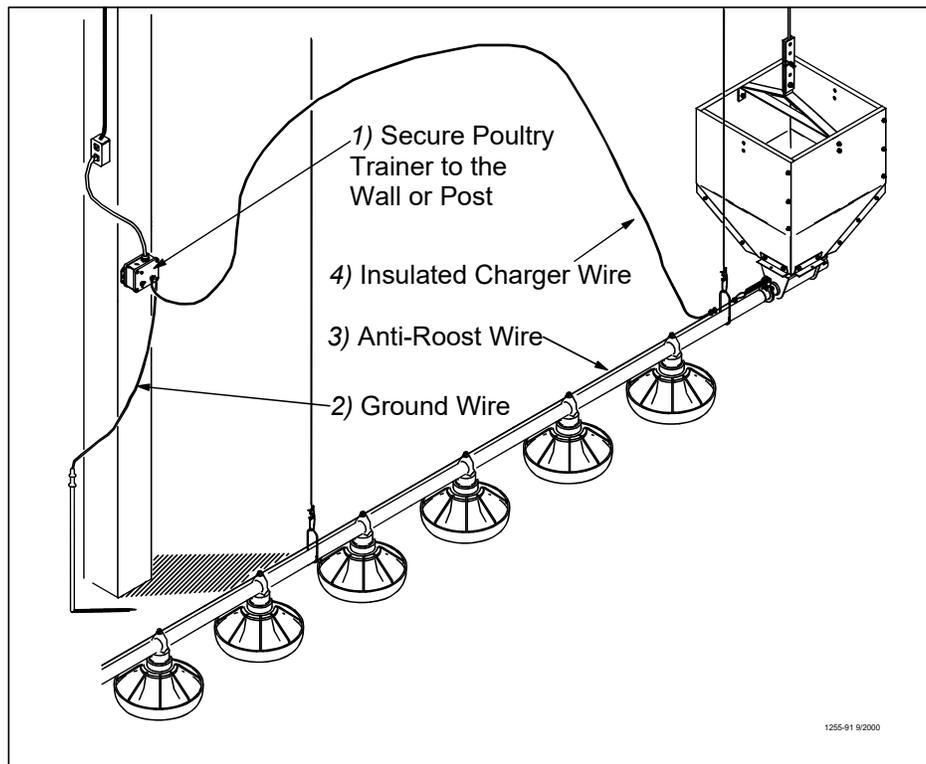

Figure 53. Poultry Trainer Installation
11. Install the Poultry Trainer or Line Charger, as shown in **Figure 53** or **54**.
The Poultry Trainer is used to power all Anti-Roost lines in a house. See **Figure 53**.